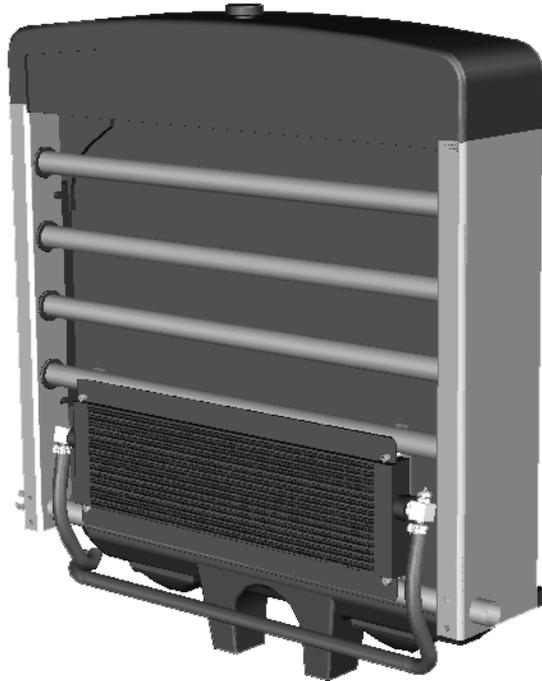

Figure 61 Radiator and Heat Exchanger
90. The coil and fins of the heat exchanger act as a heat transfer surface, channelling heat from the transfer case oil to the atmosphere thus cooling the oil. The radiator and heat exchanger arrangement is shown in Figure 61.